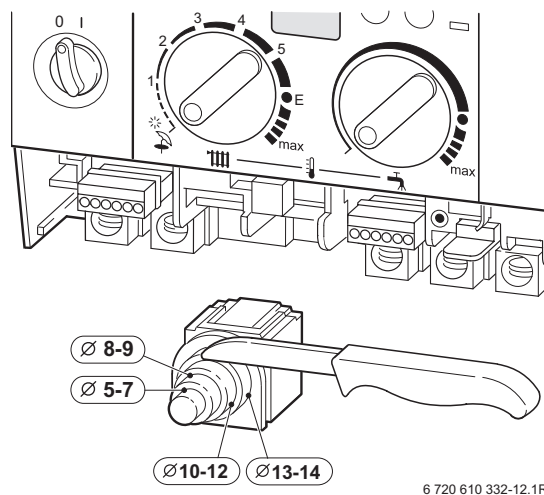

Fig. 27
- ▶ To make splash-water proof (IP): cut the cable grommet hole size to match diameter of cable, see Fig. 27.